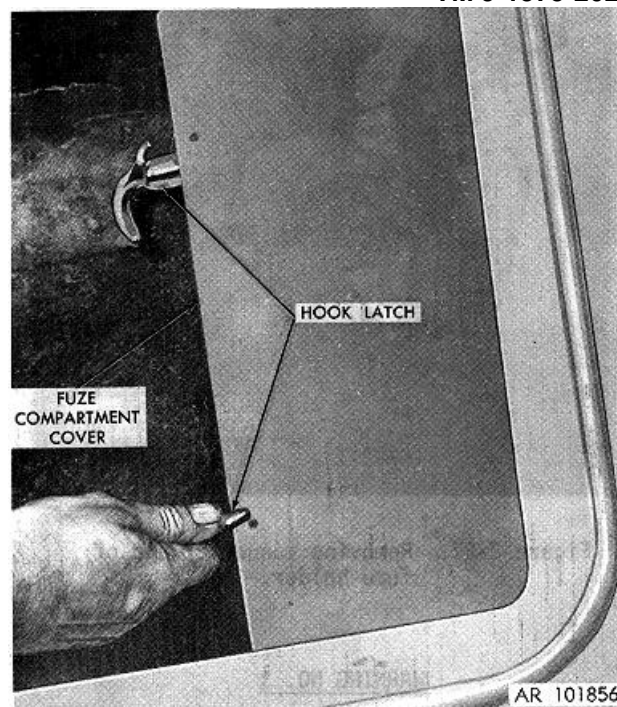

Figure 2-25. Lifting and swinging hook latch of fuze compartment cover.
a. In the accessory compartment, lift, twist, and swing the four hook latches out of engagement with fuze compartment cover and remove cover (fig. 2-25).
p. Replace cover on fuze compartment and secure with the four hook latches as shown in figure 2-25.